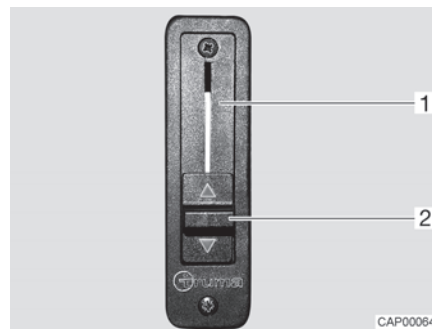

Fig. 8 Sliding regulator for branch block
- Push the sliding regulator (Fig. 8,2) fully upwards. The branch block (Fig. 8,1) is open. The living area heater also heats the windscreen.
- Push the sliding regulator (Fig. 8,2) fully downwards. The branch block is closed. The living area heater and the heater of the base vehicle are disconnected from each other.